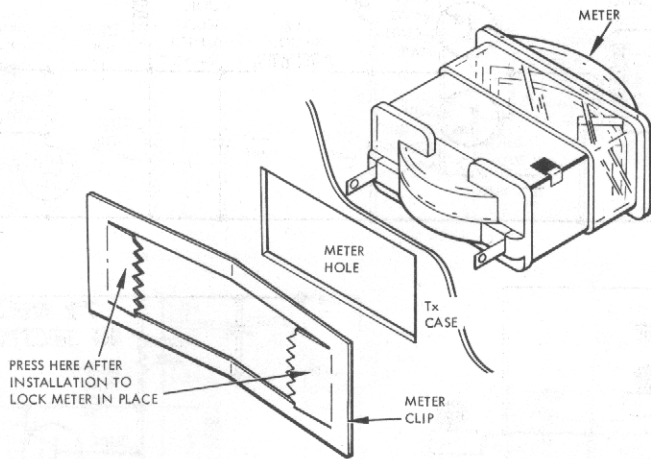

Figure 19. Meter Installation
- 149. Install meter, with spring clip on back side as shown in figure 19. Press serrated flanges down with a screwdriver until meter is locked in.